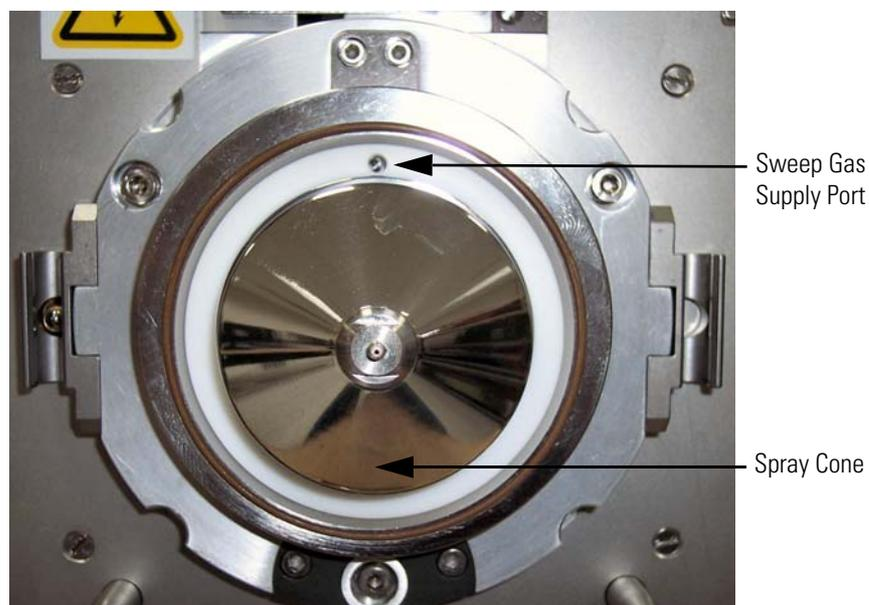
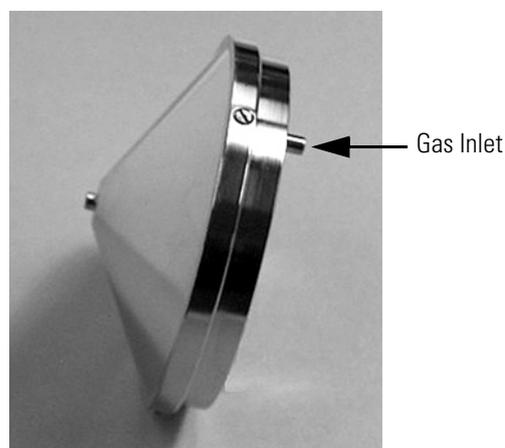

Figure 2-1. Sweep gas supply port in the API cone seal
Figure 2-2. Ion sweep cone, showing the gas inlet
- i. Note the location of the sweep gas supply port in the API cone seal. The gas inlet on the ion sweep cone is placed in this port. See Figure 2-1 and Figure 2-2.